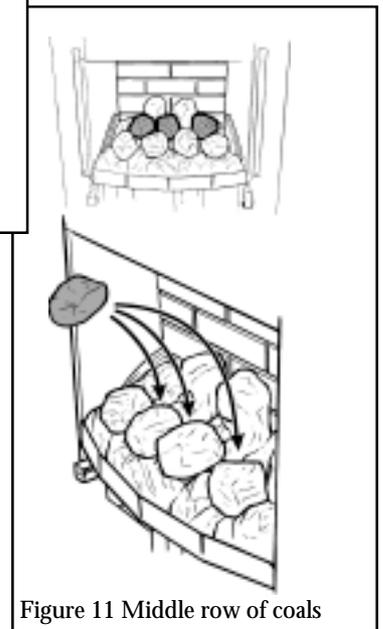

Figure 11 Middle row of coals
**5.3** Place the three remaining coals behind and approximately midway between each of the coals in the front row (See figure 11).